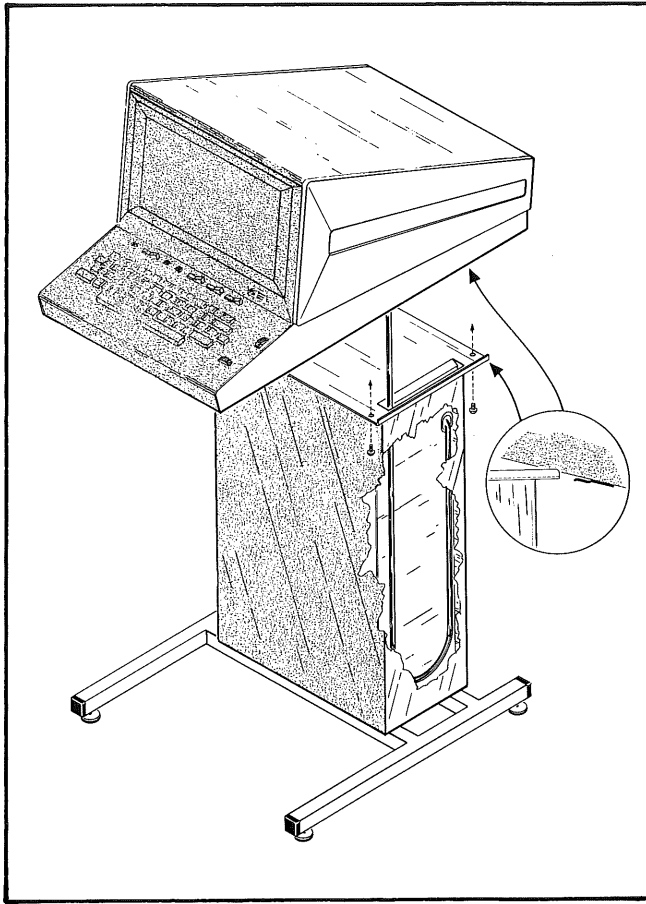

Fig. 5-2. Display mounting information.
Two people are required to mount the display unit on the pedestal, as follows (see Fig. 5-2):
2. Tilt the back of the display unit down and place its hold-down lip (underneath, near back) under the pedestal top (see insert in Fig. 5-2).